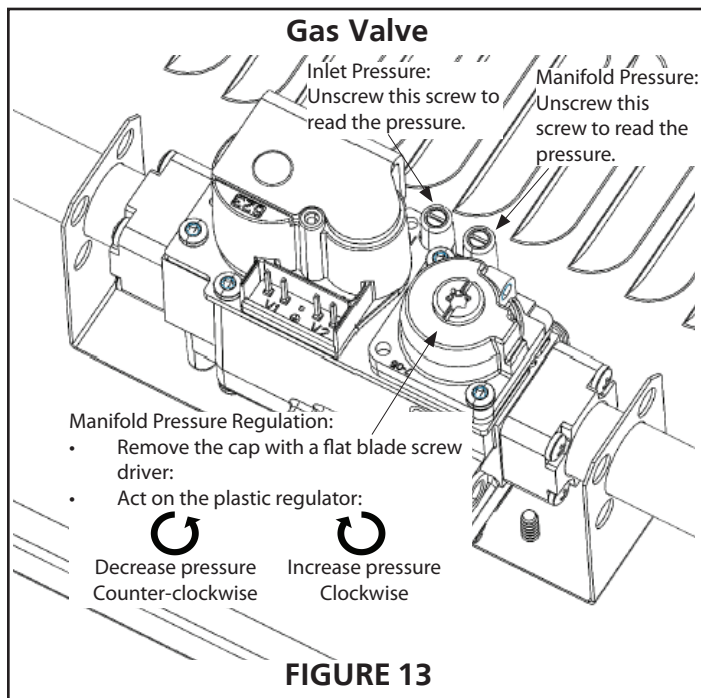

FIGURE 13
2. Unscrew the screw inside the inlet pressure hose connector. See Figure 13.
2. Unscrew the screw inside the manifold pressure hose connector (see Figure 13).
14. Close the screw inside the manifold pressure hose connector (see Figure 13).